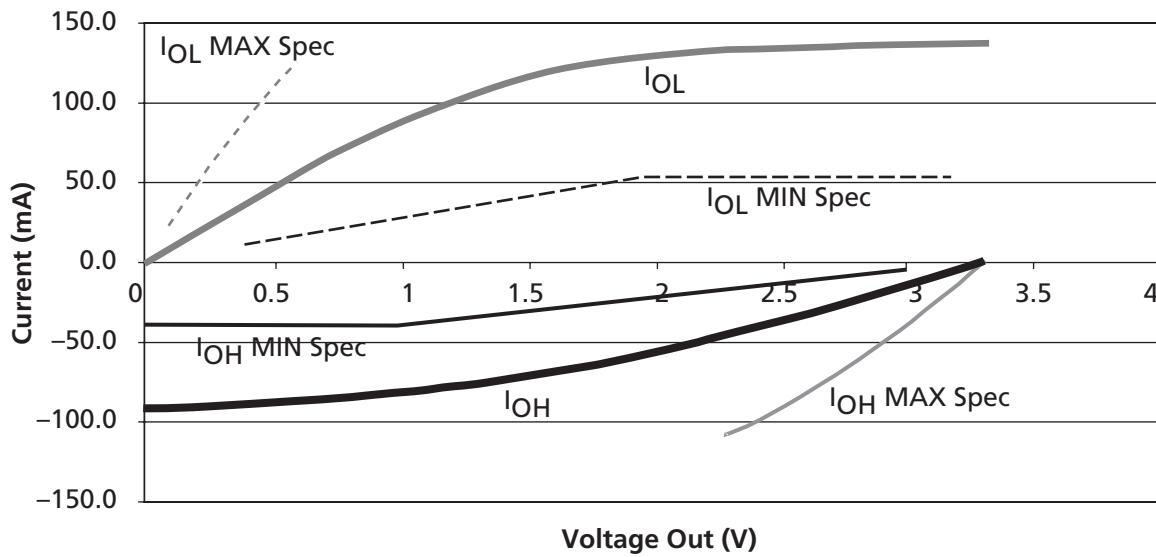

Figure 2-2 • 3.3 V PCI V/I Curve for SX-A Family
- Refer to the V/I curves in Figure 2-2 on page 2-7. Switching current characteristics for REQ# and GNT# are permitted to be one half of that specified here; i.e., half size output drivers may be used on these signals. This specification does not apply to CLK and RST#, which are system outputs. "Switching Current High" specifications are not relevant to SERR#, INTA#, INTB#, INTC#, and INTD#, which are open drain outputs.
- Maximum current requirements must be met as drivers pull beyond the last step voltage. Equations defining these maximums (C and D) are provided with the respective diagrams in Figure 2-2 on page 2-7. The equation defined maximum should be met by design. In order to facilitate component testing, a maximum current test point is defined for each side of the output driver.
Figure 2-2 shows the 3.3 V PCI V/I curve and the minimum and maximum PCI drive characteristics of the SX-A family.